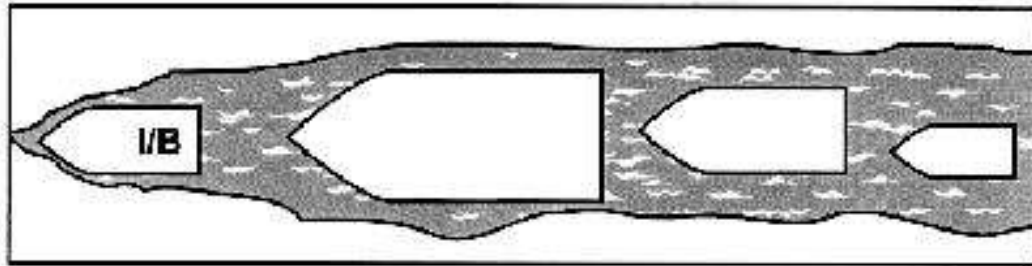
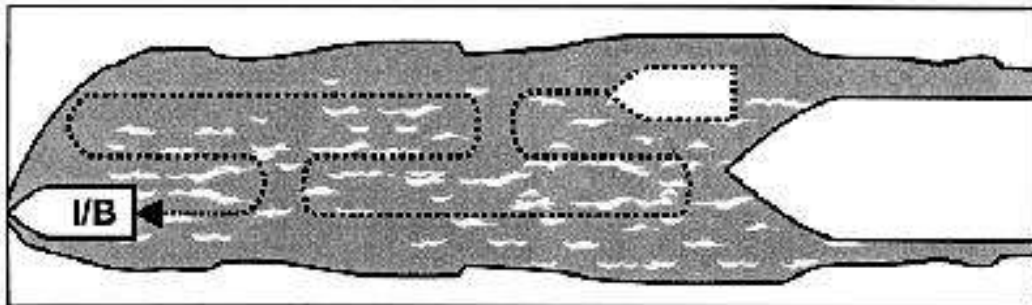

Figure 6-4 Breaking Track Ahead of Lead Vessel
Figure 6-5 Breaking Track Ahead - Parallel Track Back
- 3 Methods. There are several ways for the escorting vessel to handle a convoy. One way is to break track ahead of the lead vessel and allow the rest of the convoy to follow without further assistance (See **Figure 6-4**). Another way is for the escorting vessel to break track ahead of the convoy. Then break a parallel track back to the convoy. This works well if the escort can maintain a high enough speed to keep a track broken a safe distance ahead of the lead ship (See **Figure 6-5**.)